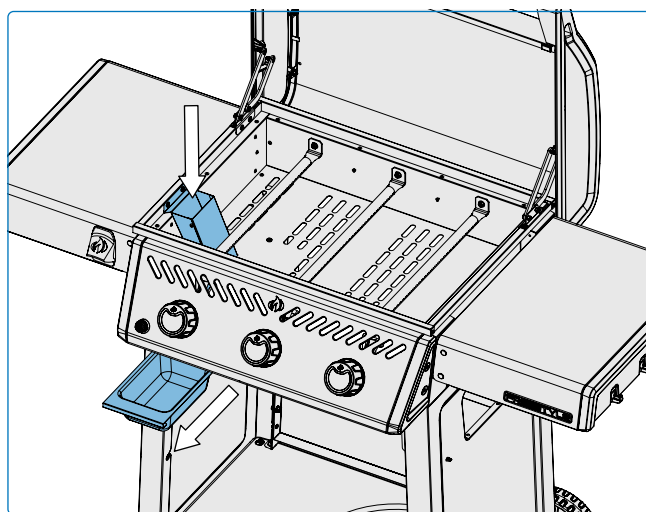

Fig. 27
4. After cleaning, reinstall the grease chute and secure it with the fasteners (**Fig. 27**).